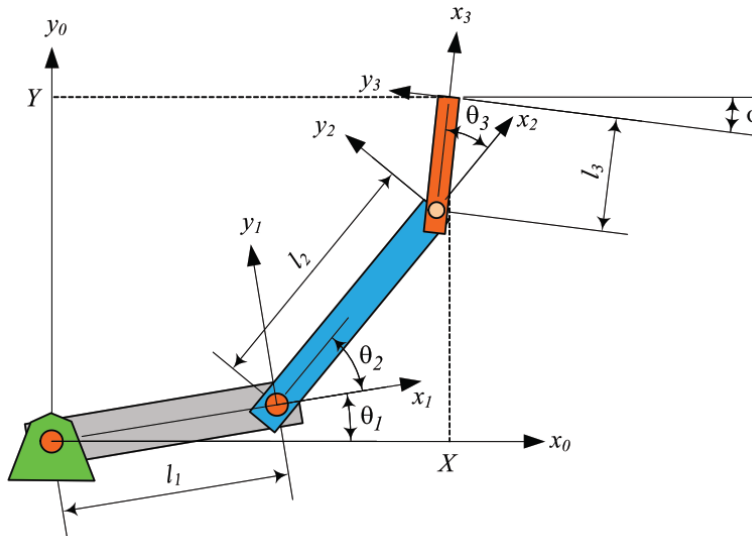

Figure 1: Schematic for Problem 1.
1. Consider the planar robot in Fig. 1. The forward kinematics can be found from the following transformation matrices: